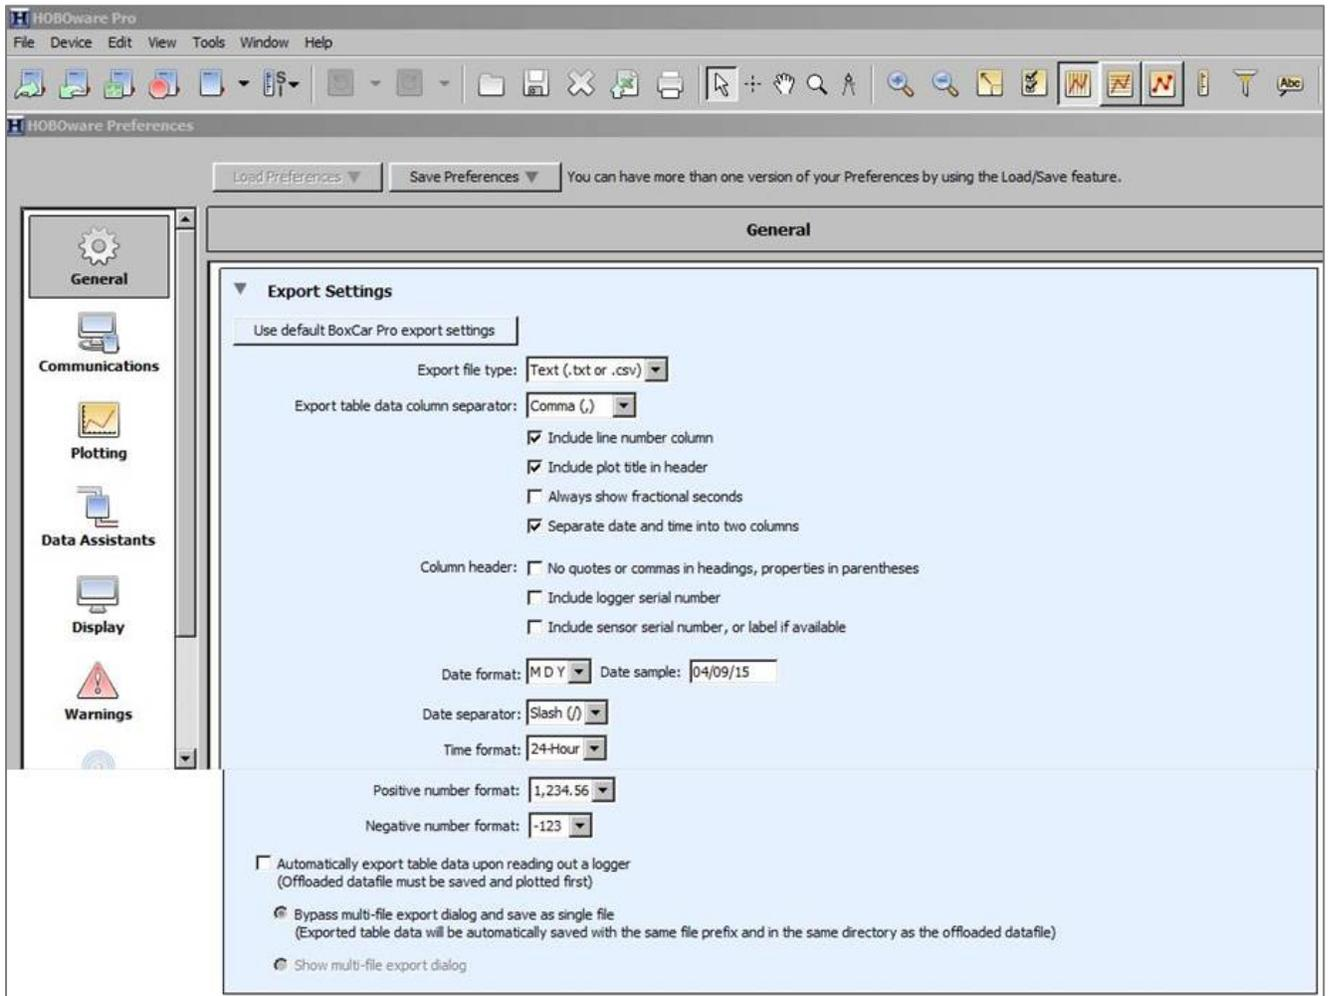

Figure 4. Export settings specifications from HOBOWare.
**Data analysis.**—Download the data file from each of your data loggers using the same data logger software (HOBOWare® Pro, Onset) used to launch loggers in the spring (at this time, you should also stop programmed temperature recording to preserve logger battery life over the winter). The data then need to be exported from HOBOWare software to a csv file (one for each logger) and provided to the refuge data manager for import into the refuge sea surface temperature Access database. Prior to exporting data from HOBOWare to a csv file, select the export specifications as noted in Figure 4 (select File, Preferences, General, Export Settings, then settings as noted in Figure 4). Once export is completed, open the file in Excel to check over the data. Provide information regarding logger deployment and retrieval dates and times, as well as noting any unusual data observed from previewing the data, to the data manager. Once the data has been archived in the main database, temperature data are summarized automatically within the database. Crews will receive a file with summary data with weekly mean temperature values; the summary file can be opened in Excel and summary data can be copied and pasted into your annual report (see Figure 5).